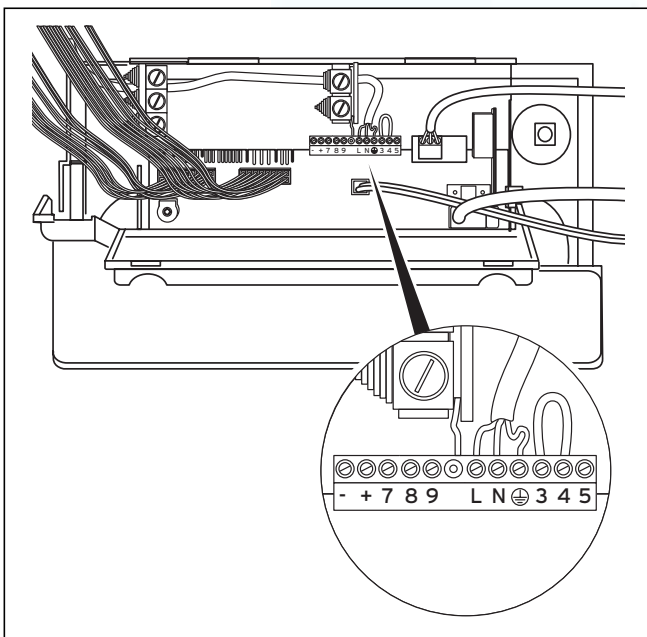

Fig. 5.13 Example for cable routing
- Connect the connection cable in accordance with Table 5.2 and Fig. 5.13 to the relevant screwed terminals in the electronic system.